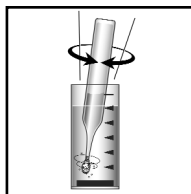

Figure 1
2. Dissolve the crystals on the tip of the ampoule by stirring for **10 seconds** with the ampoule tip (fig 1).